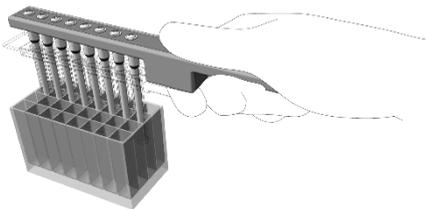

Figure 9. Collecting magnetic beads from **column 3**.
21. Using the IndiMag Handheld with the rod cover, slowly mix 10 times up and down to collect the magnetic beads from **column 3**. Wait until all the magnetic beads have attached to the rod cover (Figure 9).